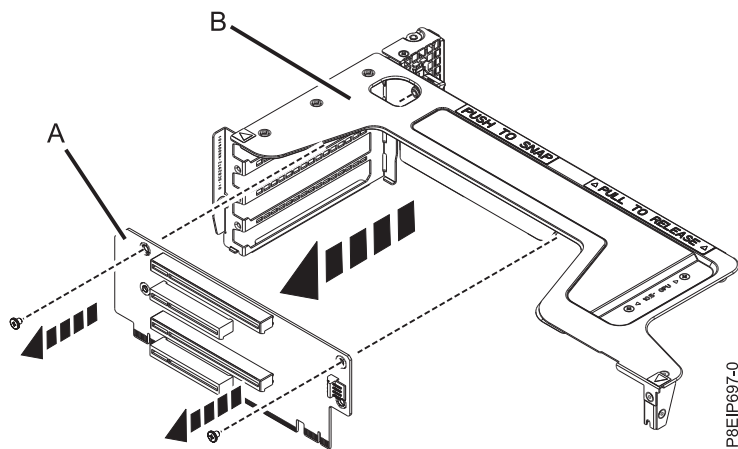

Figure 47. Removing position 5, 6, 7, and 8 riser card
- h. If the riser card for positions 5, 6, 7, and 8 needs replacing, remove it from the riser support. Remove the two screws that secure the riser card to the riser support as shown in Figure 47 on page 40.